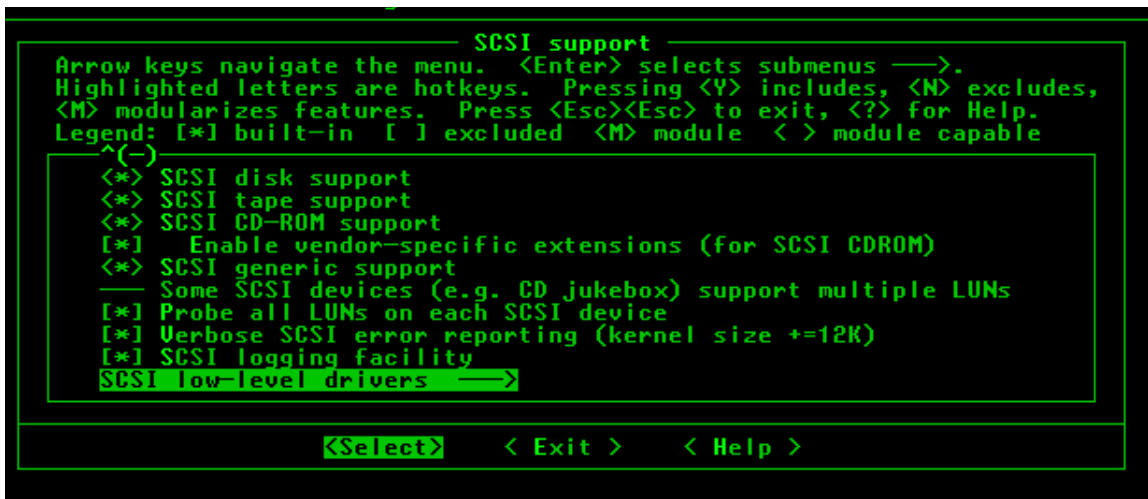

Figure 20-5 SCSI Low-Level Drivers Submenu
6. Scroll down the SCSI support menu to the SCSI low-level drivers submenu, as shown in Figure 20-5.
As shown in Figure 20-5, under